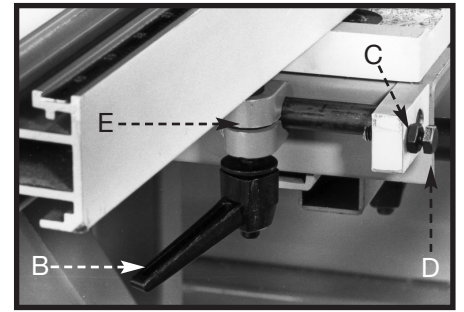

Fig. 60
4. Loosen the locknut (C) Fig. 60 and adjust the screw (D) until it contacts the bracket (E) with the fence 90 degrees to the blade. Tighten the locknut (C). Connect the machine to the power source, and make additional cuts until the cut is 90 degrees.
NOTE: When moving the left end of the fence for miter cutting, slide the fence by moving the lock handle (B) Fig. 60 with your hand.